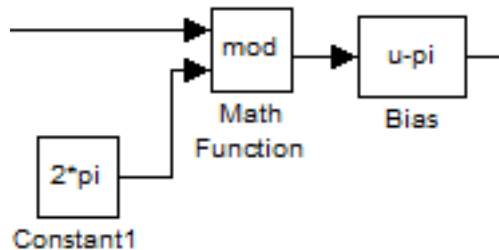

Figure 2.3: **SIMULINK®** modulus and bias blocks
8. Add modulus and bias blocks, as shown in Figure 2.3, to measure *inverted pendulum angle*, defined as Equation 1.1.